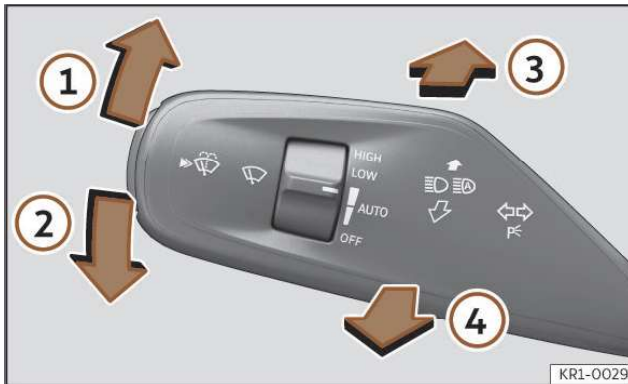

Fig. 93 Turn signal and main beam lever.
- From the base position, press the turn signal and main beam headlights lever forwards >>> **Fig. 93** ③.
- **EITHER:** if main beam assist is on, pull the turn signal light and main beam headlights lever back >>> **Fig. 93 ④**.